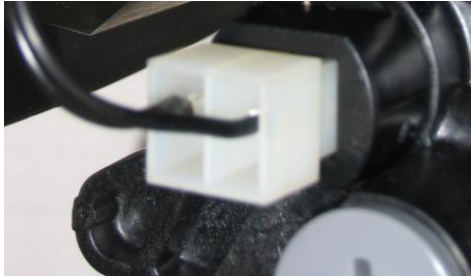

Fig. 1: Connection at the central control valve
- Fig. 1: Screw out the regenerating agent top-up regulator at the central control valve and remove the ball. Screw the electrode in so it forms a leak-tight seal and plug the white connection plug correctly into the electrode.